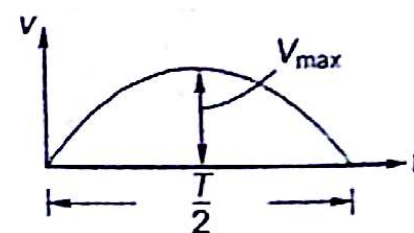

Fig. 10.7
10.2 The v - t diagram of a particle is given by a parabola of equation $v = at + bt^2$ as shown in Fig. 10.7. If $v_{\max} = 4 \text{ m/s}$ and $T = 6 \text{ s}$, determine distance travelled